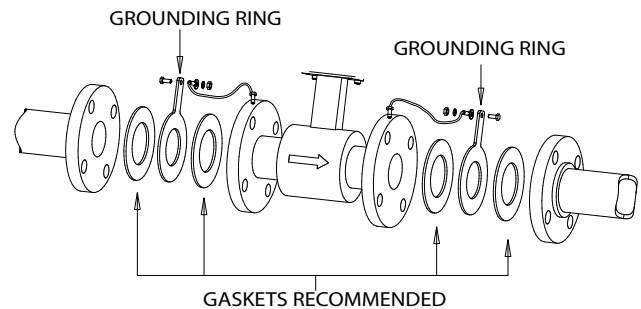

Figure 15: Meter/pipeline connection gaskets and grounding rings
*Badger Meter recommends the installation of a pair of grounding rings between the mating flanges at both ends of the meter. See Figure 15 on page 15.*
If non-conductive pipelines or pipelines lined with non-conductive material are used, install an additional grounding electrode or grounding rings between the flanges. Grounding rings are installed like gaskets between the flanges and are connected with a grounding cable to the meter (See Figure 15 on page 15).